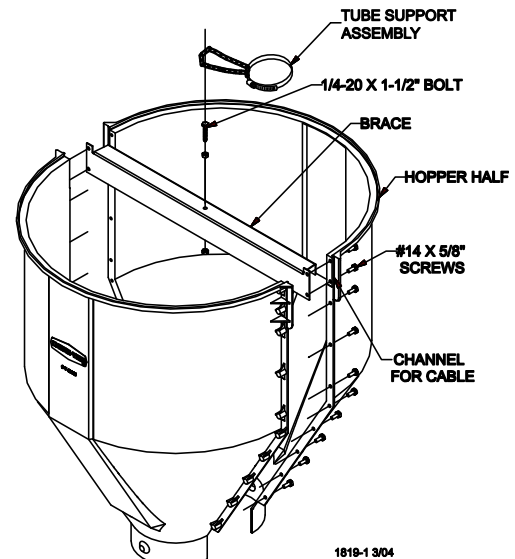

Figure 11.
1. Assemble the 1/4-20 x 1-1/2" bolt to the brace with two 1/4-20 nuts. One nut should be assembled under the brace with the other on top. This bolt is to provide a place for the tube support assembly chain to be hooked, see figure 11.
2. Assemble the 150 lb. hopper halves and brace as shown in Figure 11, using #14 x 5/8" screws (supplied in hardware package).